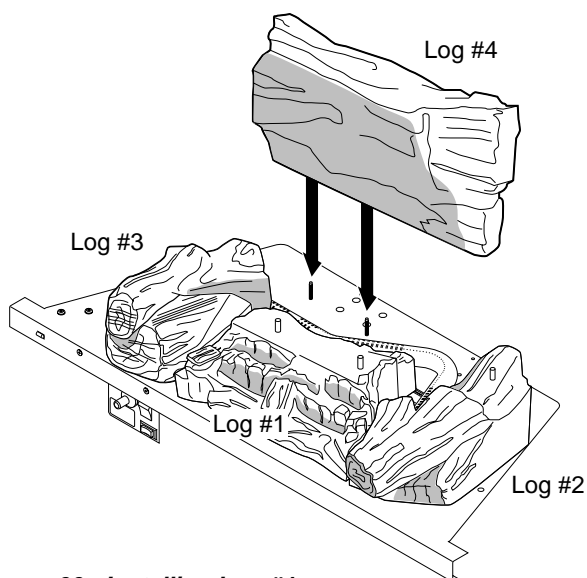

Figure 33 - Installing Log #4
- Place log #4 onto two alignment screws to rear of base (see Figure 33).